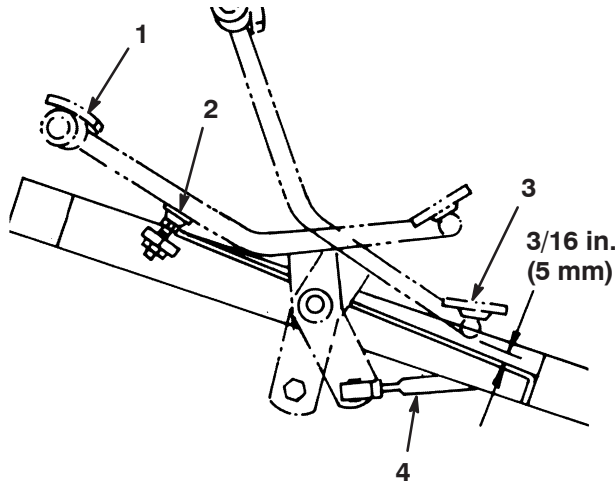

Figure 48
1. Press the traction pedal fully forward until the No. 5 section valve spool is completely pulled out. The pedal should contact the pedal stop (Fig. 48).
2. Check the distance between the bottom of the pedal and footrest as shown in Fig. 48. The distance should be approximately 3/16 in. (5 mm). If the distance is greater or less than 3/16 in. (5 mm), an adjustment to the traction control rod is required. Proceed as follows:
- A. Remove the jam nut and ball joint securing the control rod (Fig. 48) to the traction shaft pivot.